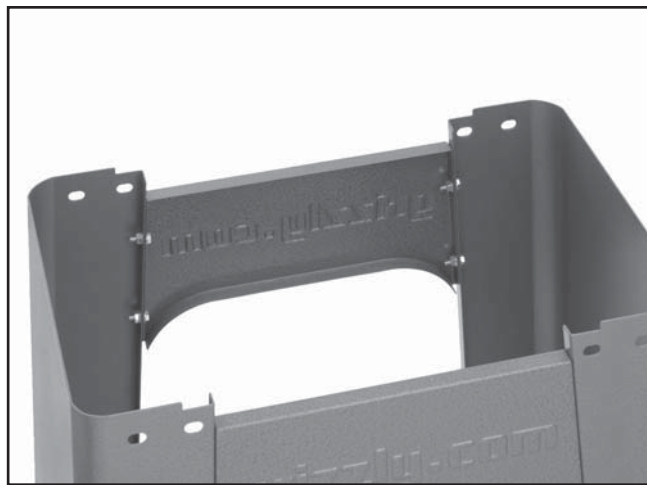

Figure 7. Upper side covers bolted to stands.
1. Attach the upper stand sides to the top of the stands with eight M6-1 x 16 hex bolts, flat washers and flange nuts (**Figure 7**).